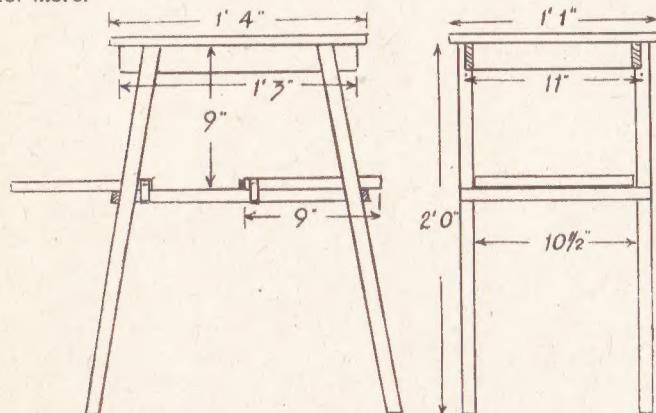

Fig. 1—Front and side views, showing measurements
Fig. 1 shows a front and side view of the article, which is quite easy to construct. Commence by making the underframe of the top. Cut the sides to length, and near each end chisel out grooves,  $\frac{1}{4}$  in. deep, at the angle given at (A) in Fig. 2 for the legs. Cut the ends, and join these to the sides with a rebated joint, as at (B), the rebate cut into the sides being  $\frac{1}{4}$  in. deep. Glue and nail these parts together.